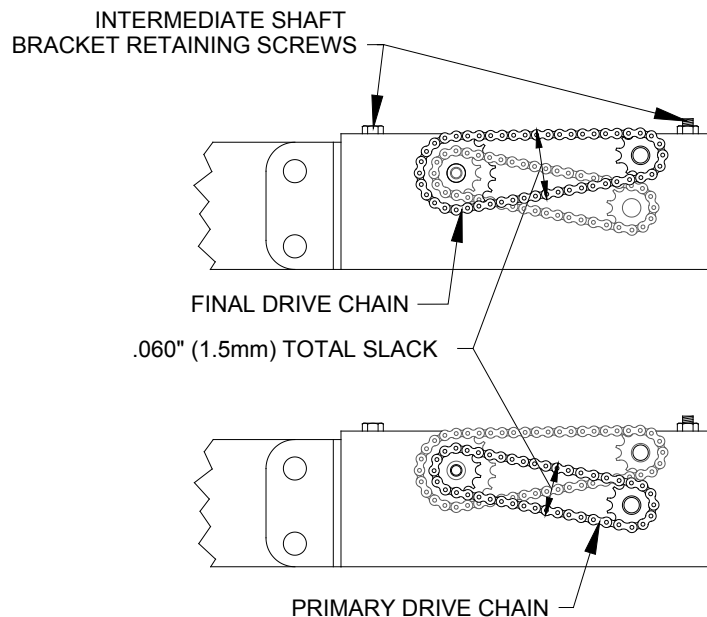

FIGURE 4-38: DRIVE CHAIN SLACK ADJUSTMENT
- 1) Refer to **Figure 4-38**. Verify the two screws fastening the intermediate shaft mounting bracket to carriage are loose.
- 6) Refer to **Figure 4-38**. Install primary drive chain around sprocket on gearbox output shaft, and around clutch sprocket. Install master link.
- 2) Refer to **Figure 4-38**. Loosen screws fastening intermediate shaft bracket to carriage. The front screw is accessible from top of lift and rear screw is accessible through service hatch (use an open-end wrench above intermediate shaft mounting bracket to hold nut).
- 6) Refer to **Figure 4-38**. Adjust chain tension to achieve .030" (0.8 mm) slack on lower span.
- 15) Refer to **Figure 4-38**. Adjust chain tension to achieve .030" (0.8 mm) slack on upper span.
- 4) Refer to **Figure 4-38**. Remove screws fastening intermediate shaft bracket to carriage.
- 5) Refer to **Figure 4-38**. Engage final drive chain sprocket (mounted on intermediate shaft) with torque wrench.